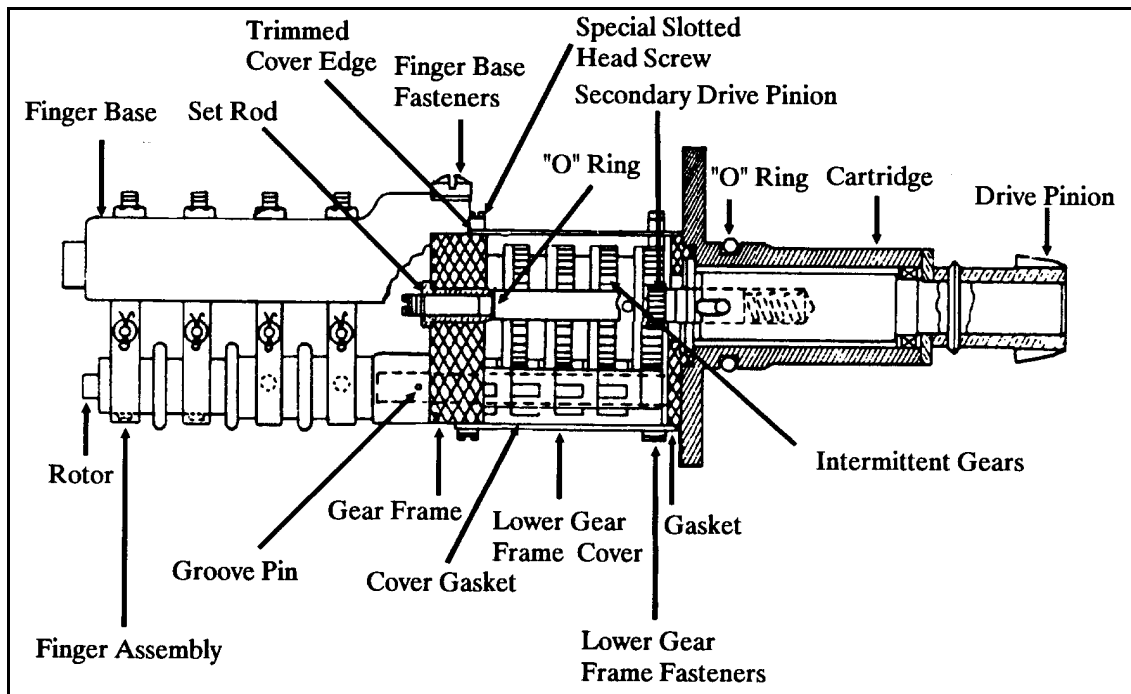

Figure 4-6 Limit Switch Section View
14. Disengage the limit switch by rotating the set rod (Figure 4-6) in the clockwise direction. Loosely replace the compartment cover. This disconnects the intermittent gears in the limit switch gear frame from the secondary drive pinion of the limit switch cartridge.